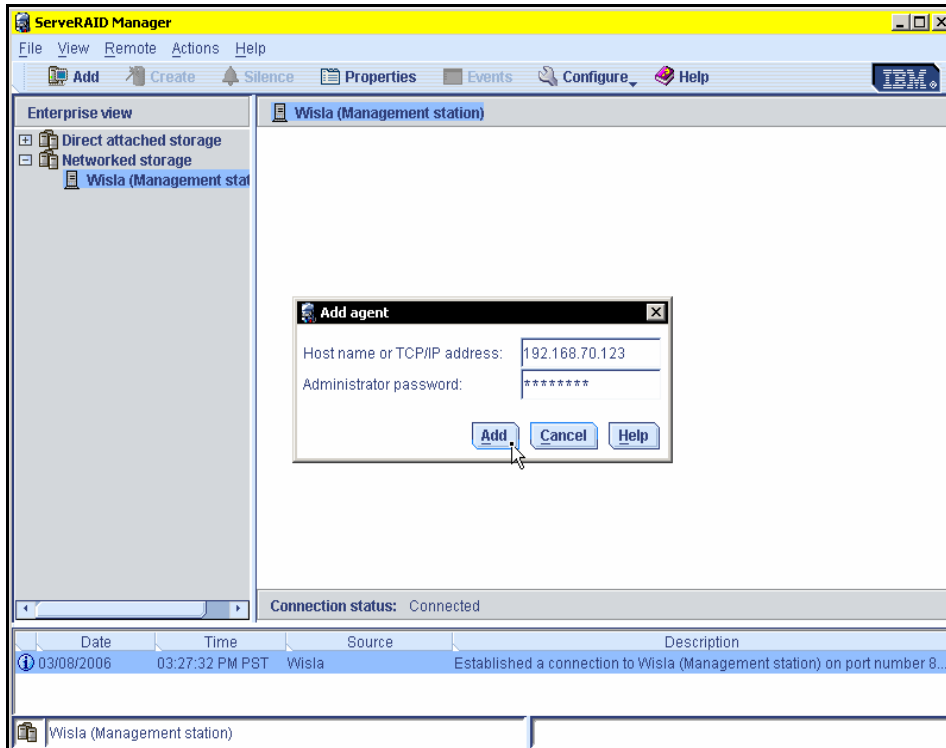

Figure 29 Adding an agent to a Management station
- e. In the Add agent pop-up box, shown in Figure 29 on page 27, type the IP address and password assigned to the DS400 system's controller A in "Initial configuration of the DS400 controller" on page 22.